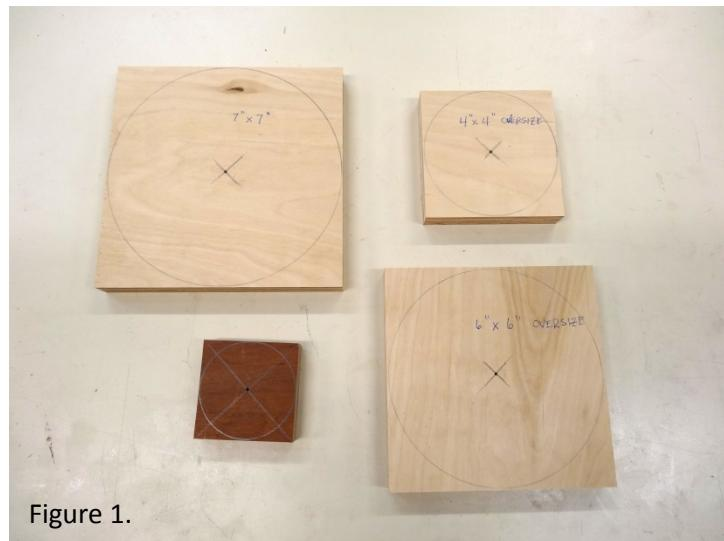

Figure 1.
1. There are five main pieces required – three from $\frac{3}{4}$ " plywood and two from $\frac{3}{4}$ " thick hardwood. (Figure 1).